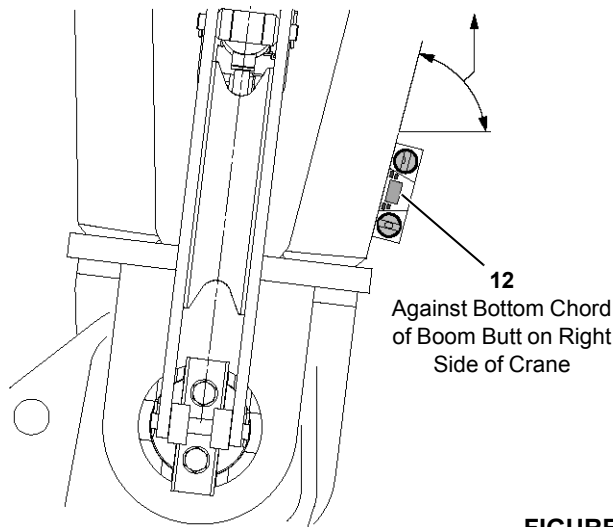

FIGURE 4-3
12	Digital Level (see Figure 4-3)
- Place an accurate digital level (12) on the boom butt as shown in Figure 4-3. The corresponding **Digital Level Angle** should appear on the digital level.